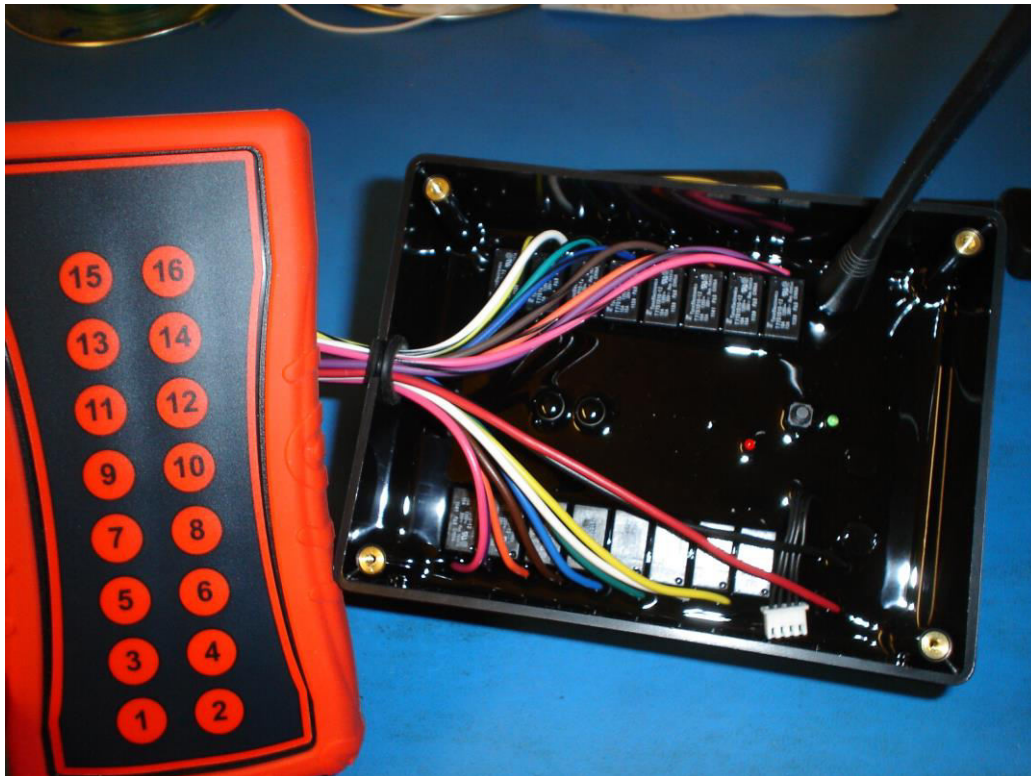

Fig. 1 Standard 16 Button Transmitter & Receiver
- Inside the receiver box (**See Fig. 1**) locate and push the black learn address button next to the red LED. The red LED will begin to flash.